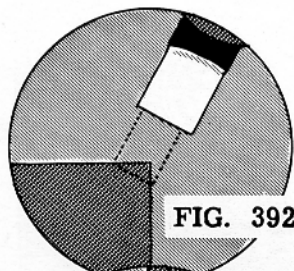

FIG. 392
2. Adjust the work and the table with the cross-feed hand crank until the tool is above the edge to be cut as shown in Figure 392.